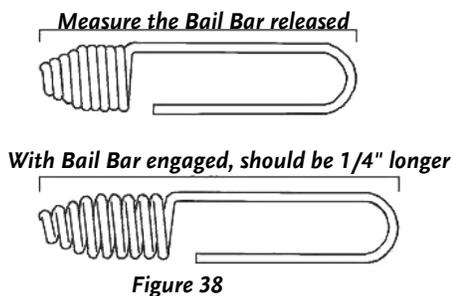

Figure 38
**NOTE:** To check your adjustment, measure the Spring with the Bail Bar disengaged. Then measure it with the Bail Bar engaged. There should be a 1/4" extension in the Spring when the Bail Bar is engaged (Figure 38). Adjust the Nuts on the Bracket as needed to get the correct measurements.